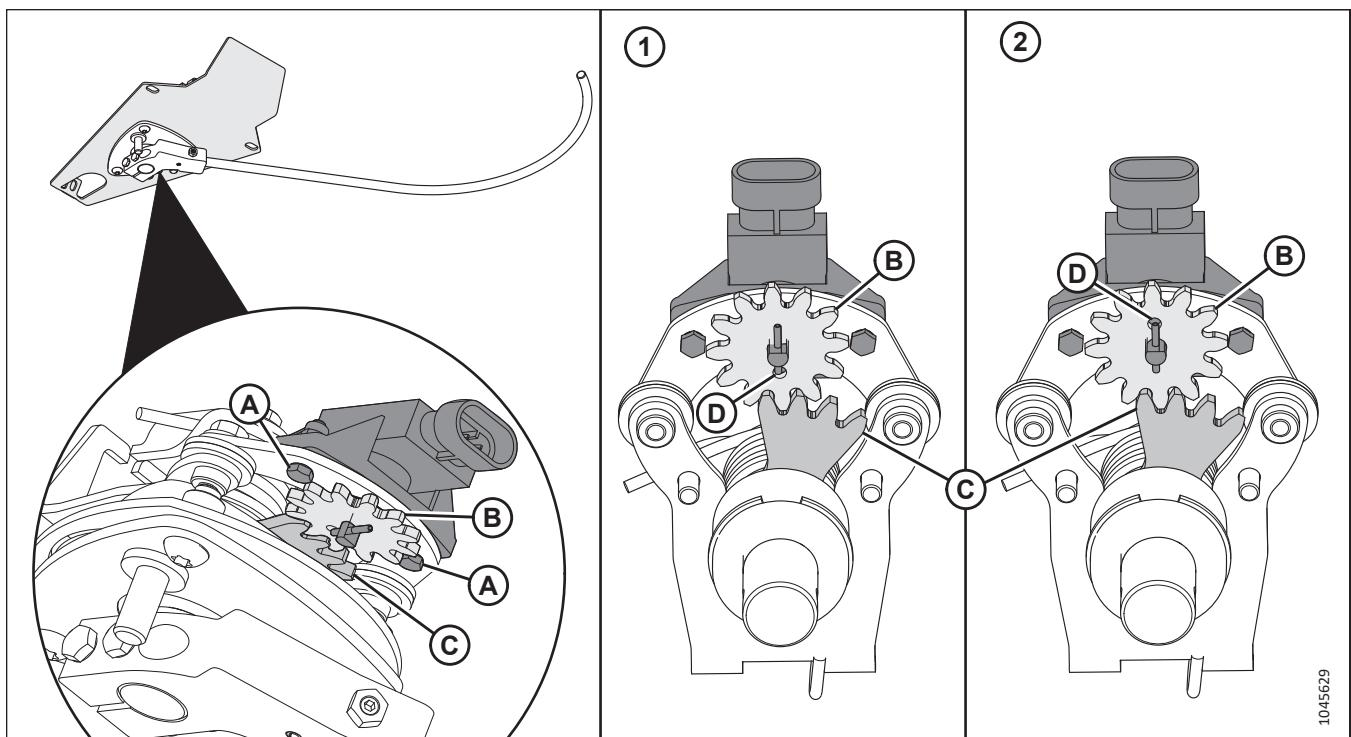

Figure 3.37: Row Guidance Sensor
5. Loosen nuts and bolts (A) enough to allow sensor gear (B) to disengage from arm (C).
6. Rotate sensor gear (B) until hole (D) is positioned correctly for the combine type. Refer to Figure 3.37, page 51.
7. Retighten nuts and bolts (A) to secure the sensor.
8. Install the sensor wand assembly into the end of the snout, and secure it with bolts (A).